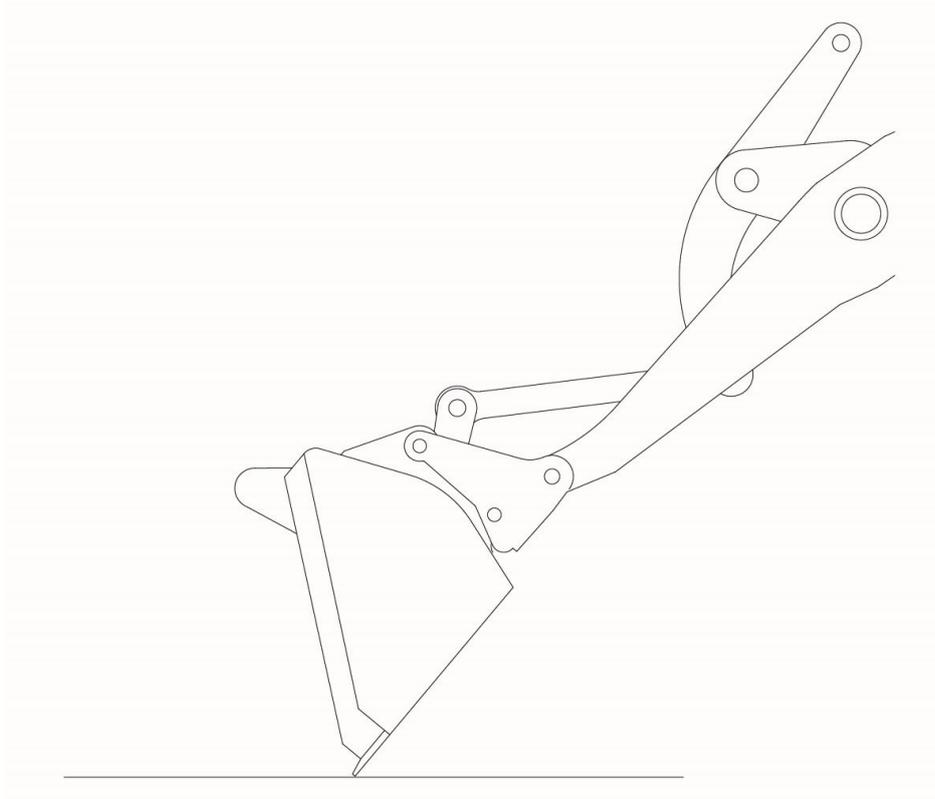

Figure 5-51 Work on flat ground
Step 1: Operate the handle to make the bucket is in the unloading state. The bucket posture is as shown in figure 5-51. Make the bucket lip touch the ground;